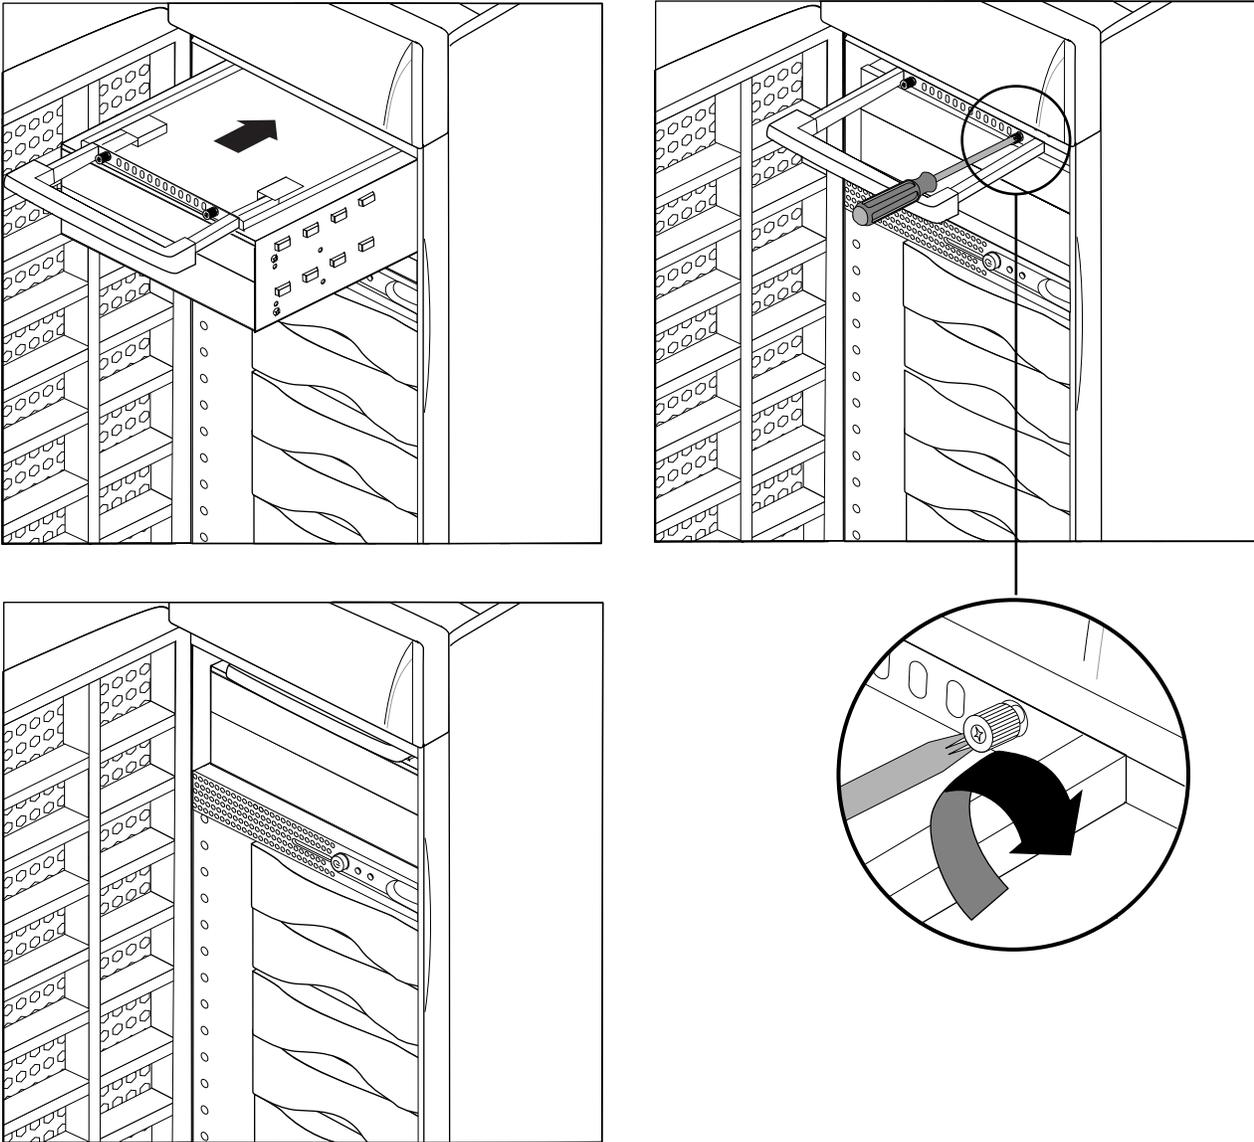

Figure 7-11 Replacing the 5.25-Inch Peripheral Carrier
6. Slide the carrier into the system and secure it with the two captive screws. See Figure 7-11.